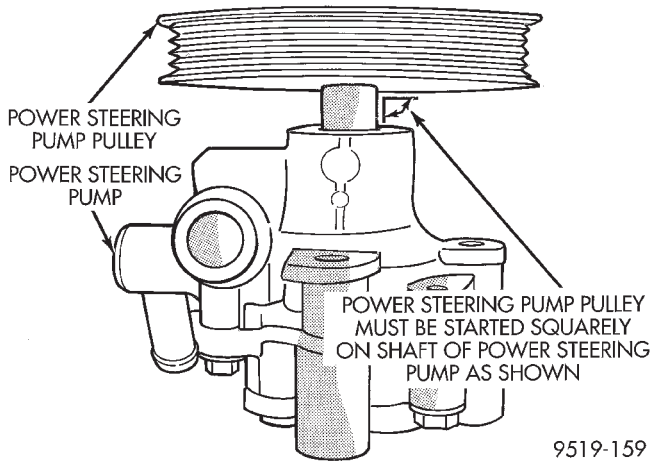

Fig. 54 Pulley Positioned On Shaft Of Power Steering Pump
- (1) Mount power steering pump in a vise using the power steering pump mounting bracket.
- (2) Place power steering pump pulley squarely on end of power steering pump shaft (Fig. 54).